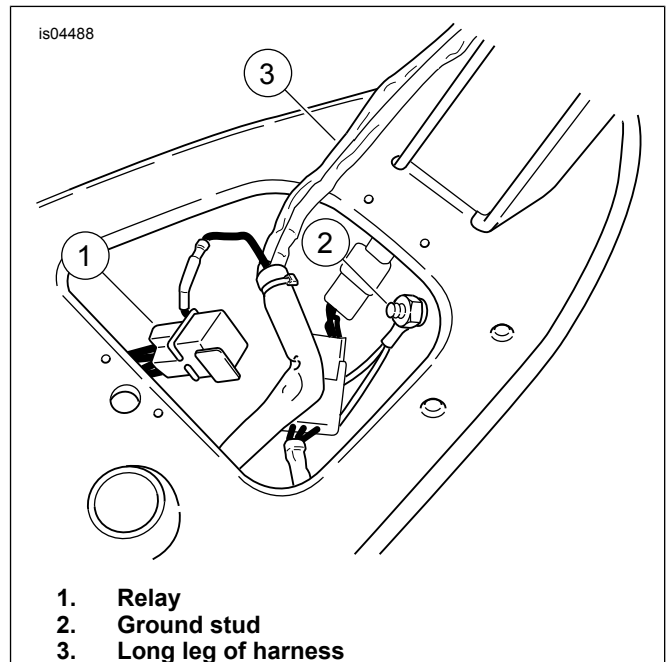

Figure 6. Install Wiring Harness
- See Figure 6. Install the wiring harness. Place the relay (1) in the opening in the seat pan, and route the long leg of the harness (3) along the frame backbone.